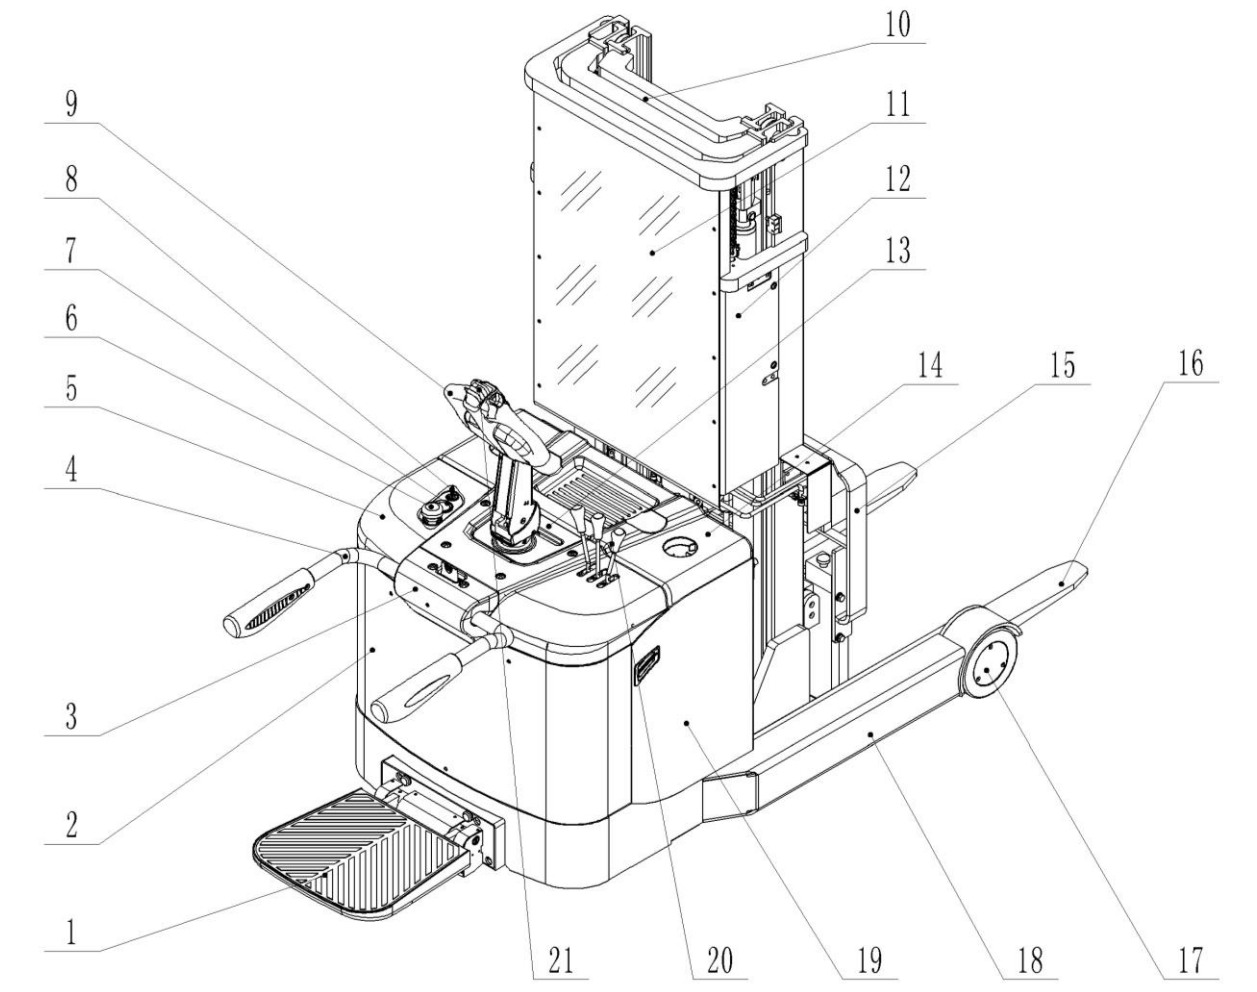

Fig. 1: Overview main components
- Use the truck without a removed protective screen (fig.1, pos. 19/ guarding).